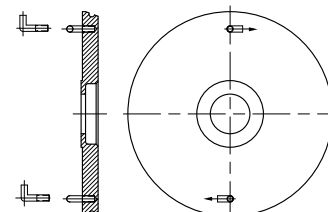

Figure No. 4
5. Screw back plate pins into back plate. (see figure no.4)